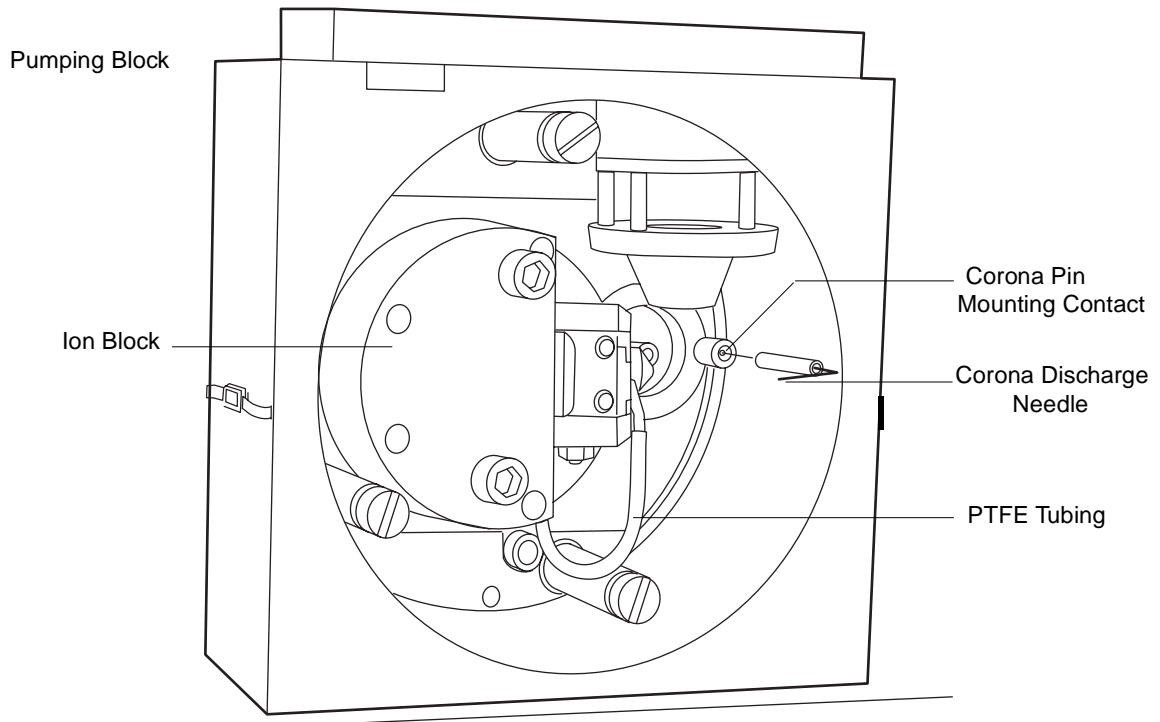

Figure 5-9 Source Showing the Corona Discharge Needle
10. If you are using an APCI probe, carefully remove the corona discharge needle (Figure 5-9).
To clean and replace the corona discharge needle (Figure 5-9):